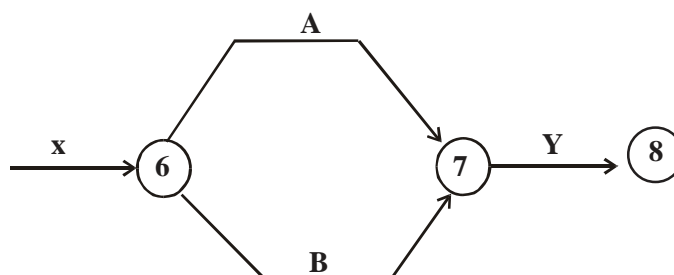

Figure 11
- (3) **Duplicate activities:** Consider the following figure 11: